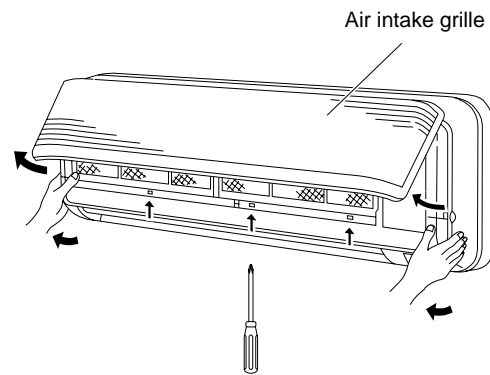

Fig. 17
- (3) Remove the grille. (Fig. 17)